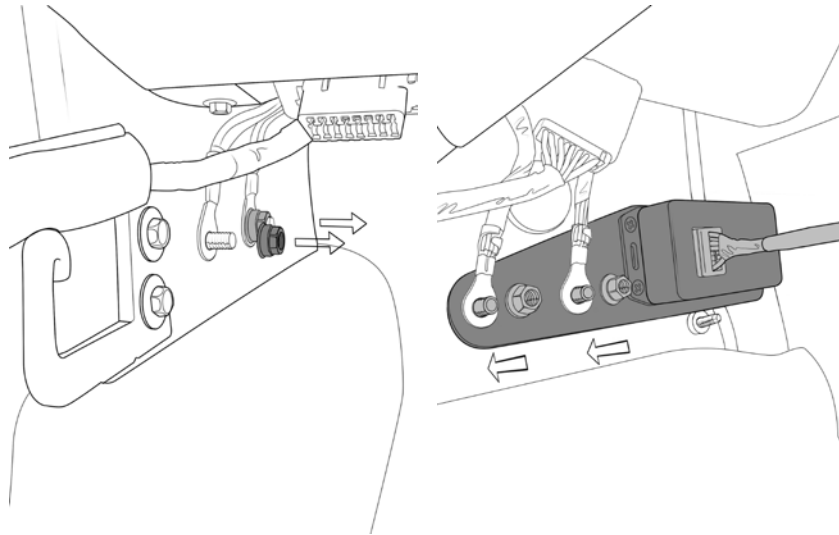

Figure 53
- g. Remove both 10mm ground nuts from the lower driver side inner body located next to floor pedals. Connect routed through module harness to module (connector E). Reinstall both 10mm ground nuts.(fig 53).